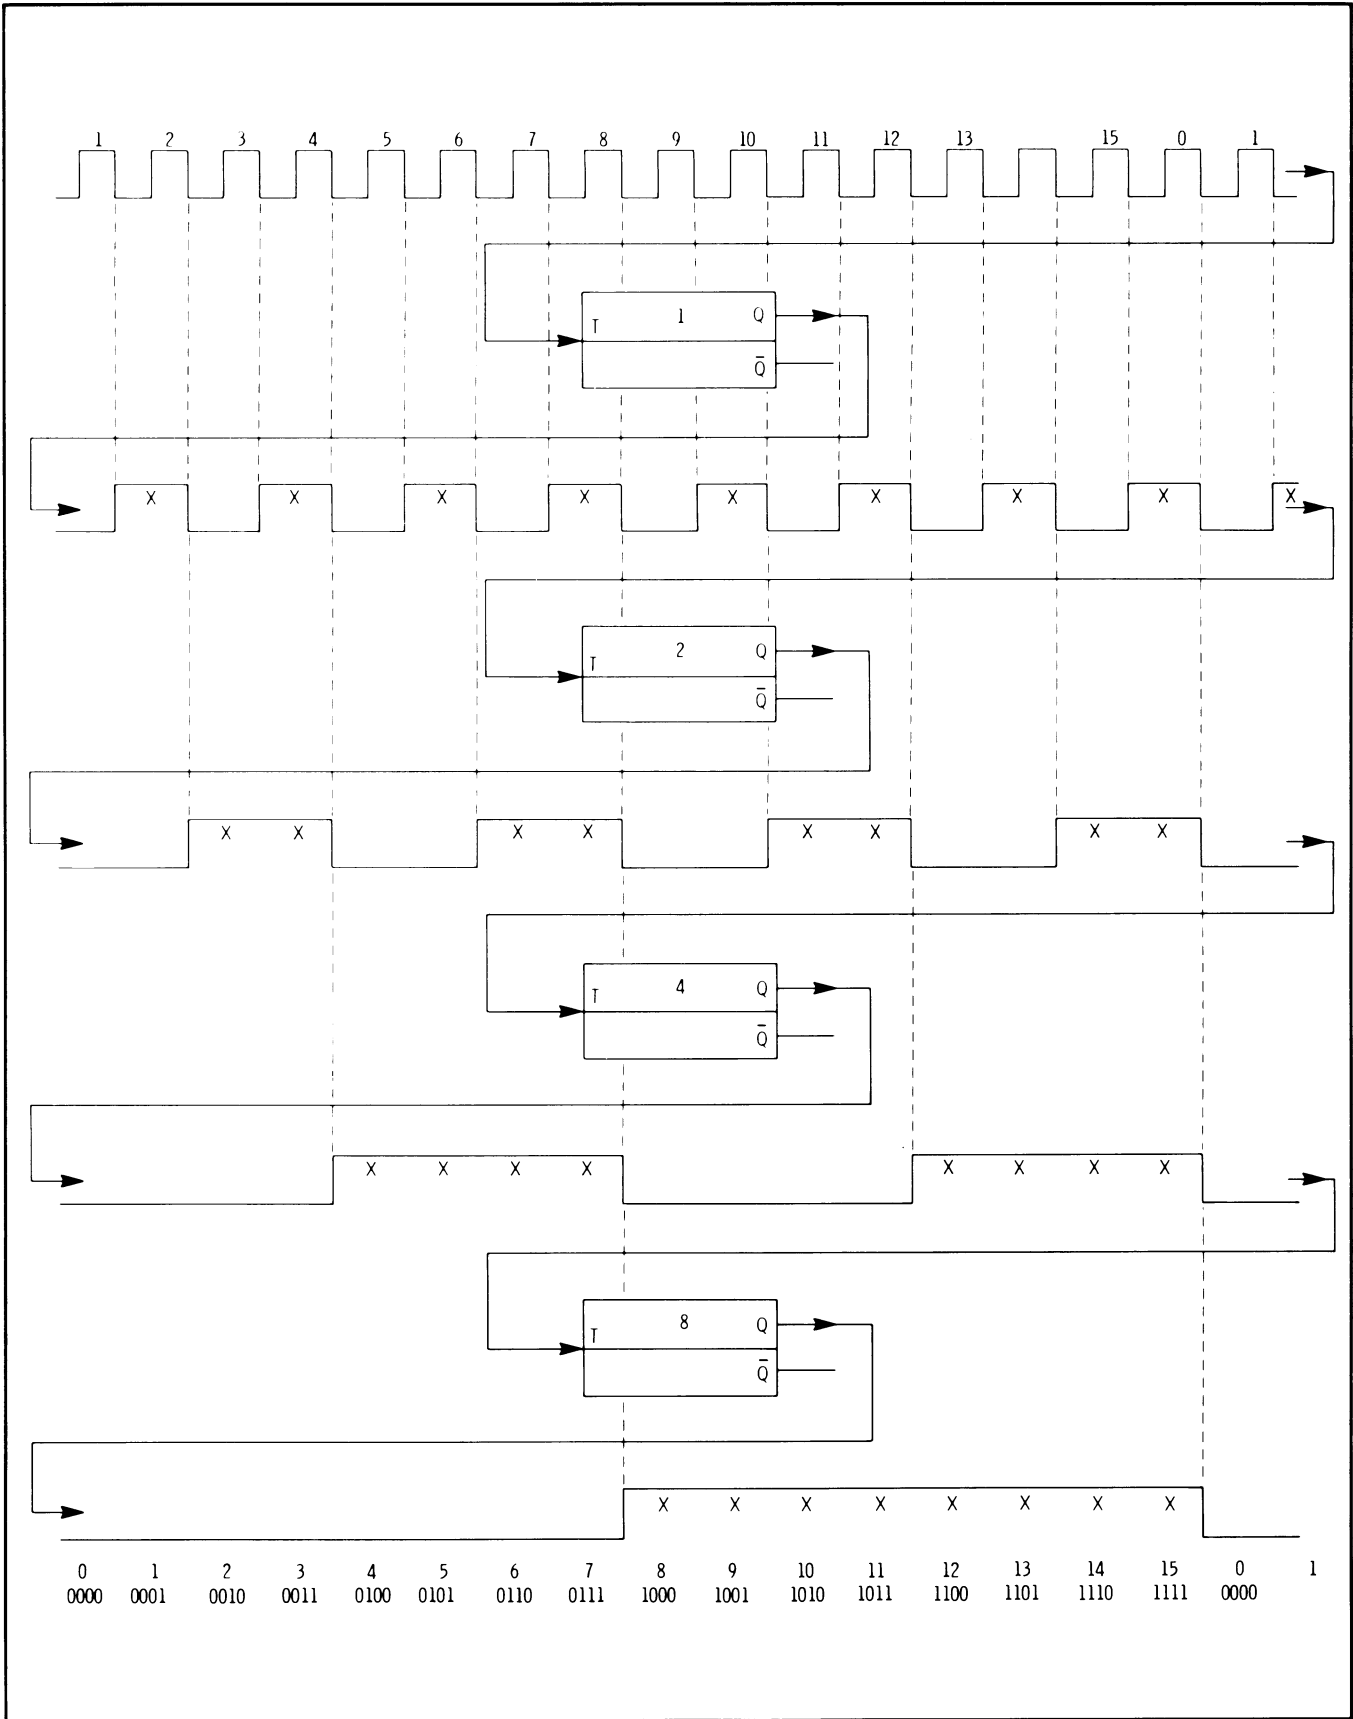
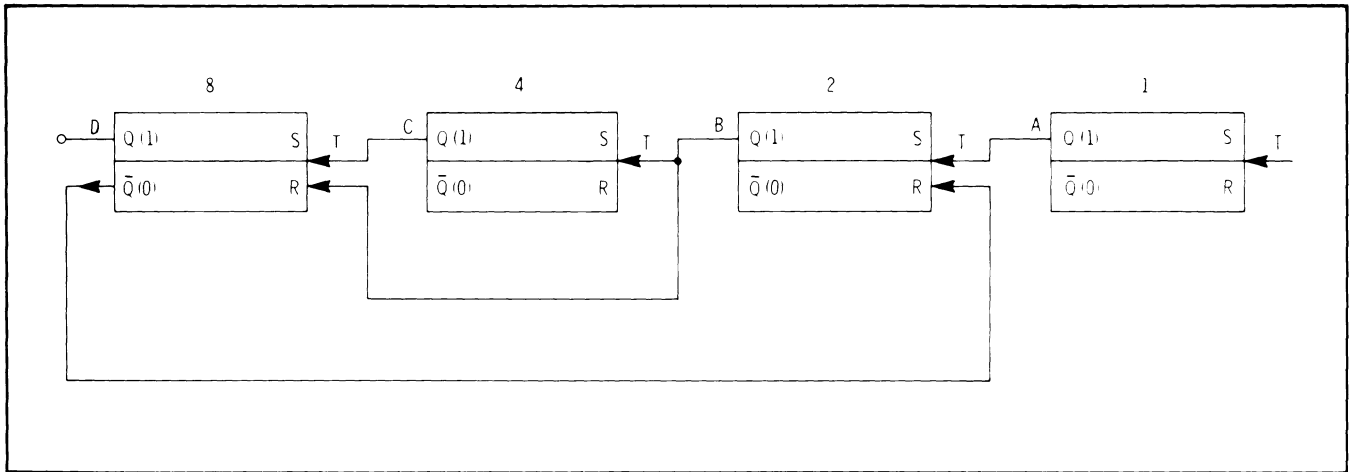

Figure 8-12. 16-Count Binary Counter Chain
Figure 8-13. 8-4-2-1 BCD Decade Counter
8-42. In frequency counters the decimal numbers 0 through 9 are displayed on each readout device. For this reason, only binary numbers 0000 through 1001, which correspond to decimal numbers 0 through 9, are discussed in this text. The only exception to this is the discussion of Figure 8-12 in the next paragraph.
8-43. Figure 8-12 shown four triggered flip-flops in series, with the Q outputs of the first three driving the trigger inputs of the next flip-flop. Since each flip-flop is triggered only by negative-going excursions of the input signal, each provides one cycle of output signal for two cycles of input signal. The flip-flops then are weighted in ascending powers of two. The first flip-flop has a weighted value of 2^0 (1), the second has a weighted value of 2^1 (2), the third has a weighted value of 2^2 ($2 \times 2 = 4$), and the fourth has a weighted value of 2^3 ($2 \times 2 \times 2 = 8$).
8-44. Assume that initially the flip-flops in Figure 8-12 are all set to 0 (Q low). When seven input cycles have been received the flip-flops have operated as follows: the first has been turned on (Q high) by inputs 1, 3, 5 and 7, and turned off (Q low) by inputs 2, 4 and 6. The second flip-flop has been turned on by the first and third outputs of the first flip-flop (coincident with initial inputs of 2 and 6) and turned off by the second output of the first flip-flop (coincident with initial input 4). The third flip-flop has been turned on by the first negative-going output of the second flip-flop (coincident with initial input 4). The fourth flip-flop has not been triggered because there has been no negative-going output from flip-flop three. The first three flip-flops are now in the 1 state (Q high) and the binary state is 1110. Their decimal weighted value then is $2^0 + 2^1 + 2^2 = 1 + 2 + 4 = 7$. The next negative input to the chain causes the first three flip-flops to turn off and the fourth to turn on. The binary state then is 0001; the decimal weighted value of $0 + 0 + 0 + 2^3 = 0 + 0 + 0 + 8 = 8$.
8-45. As the timing diagram in Figure 8-12 indicates, the four flip-flops in this configuration are capable of counting up to 16. Since only the decimal digits 0 through 9 are used in counter circuits, a means of limiting the count to 10 is built into the circuit. Similarly, another built-in device resets the flip-flops to zero before a new count is started.
8-47. A Simple 8-4-2-1 BCD Code Decade Counter. Figure 8-13 shows a simplified decade counter using triggered RS flip-flops. This circuit operates like the circuit shown in Figure 8-12 up through decimal count 9 (binary 1001). When the tenth pulse is received at the input flip-flop, point A goes low, point B goes high and the flip-flops are temporarily in the 1010 state. Almost immediately the output from B causes D to reset, and the output from D then causes B to reset. The end result is that all flip-flops are reset to 0 by the tenth pulse and are ready to begin the next count. This circuit is useful as a divide-by-ten decade. If it is to be used as a frequency counter, a reset must be provided to reset all flip-flops to zero when the count ends at a number other than ten.